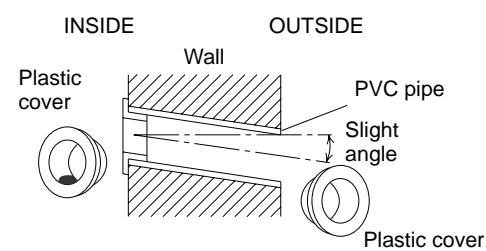

**Fig. 8**
(4) Using a sabre saw, key hole saw or hole-cutting drill attachment, cut a hole in the wall. See Table 4 and Fig. 8.